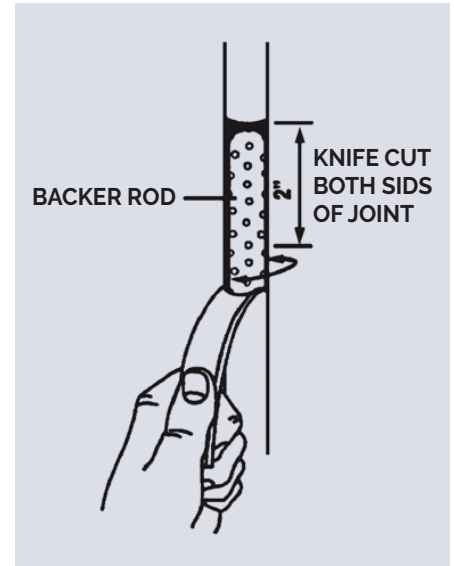

Figure 2 Pull test
4. As shown in Figure 2, grasp the two-inch piece of sealant firmly between the fingers and pull down at a 90° angle or more and try to pull the uncut sealant out of the joint.